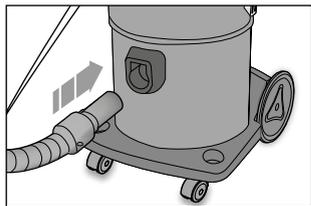

Fig. 4
- Insert the extremity of the flexible tube (L) into the appropriate attachment (A) on the body of the vacuum and block it by pressing it in until a click is heard (FIG. 4). To remove the tube, press the button positioned on its extremity and extract it.